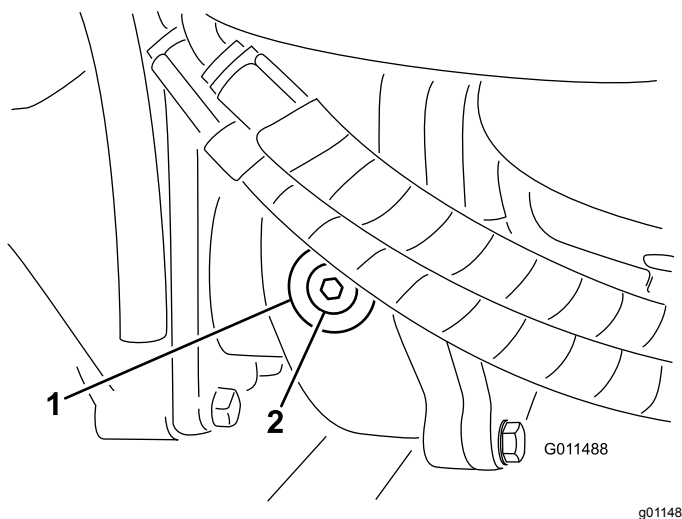

Figure 18
2. Remove the check/fill plug from the left side of the gear box and ensure that lubricant is up to the bottom of the hole (Figure 18).